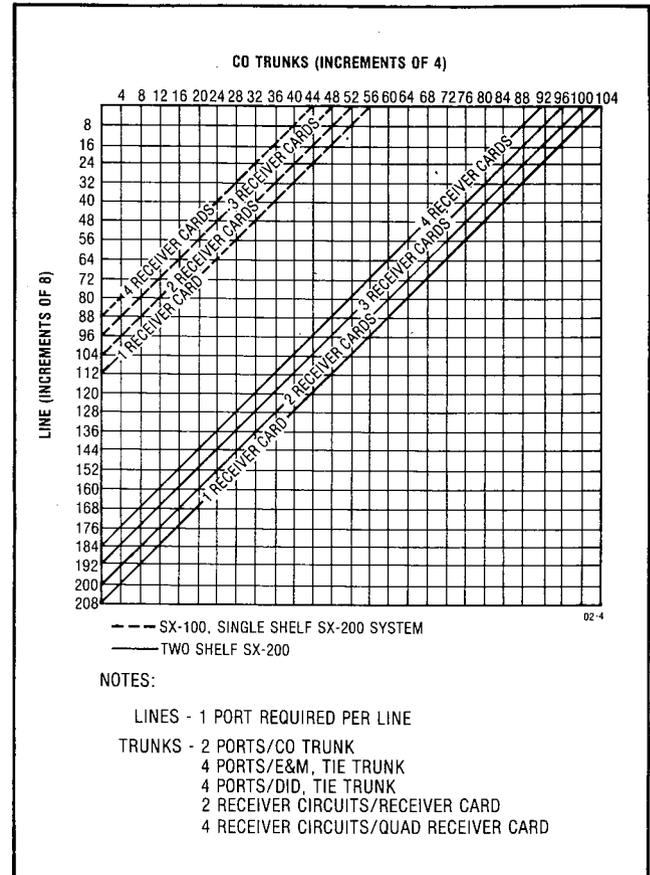

Fig. A2-1 Maximum Line and Trunk Configuration
- The maximum possible combination of trunks and lines which can be accommodated is dependant upon the number of receivers installed and is illustrated in Fig. A2-1.